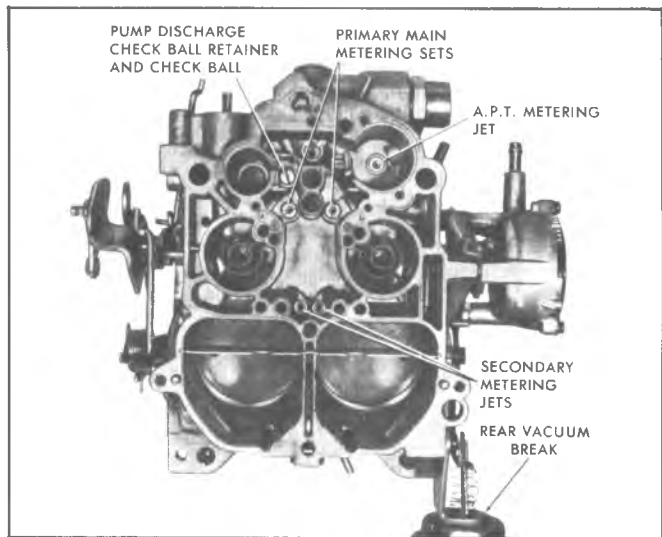

Fig. 13MQ—Float Bowl Jets
9. Remove primary main metering jets (Fig. 13MQ).
6. Install primary main metering jets (Fig. 13MQ).